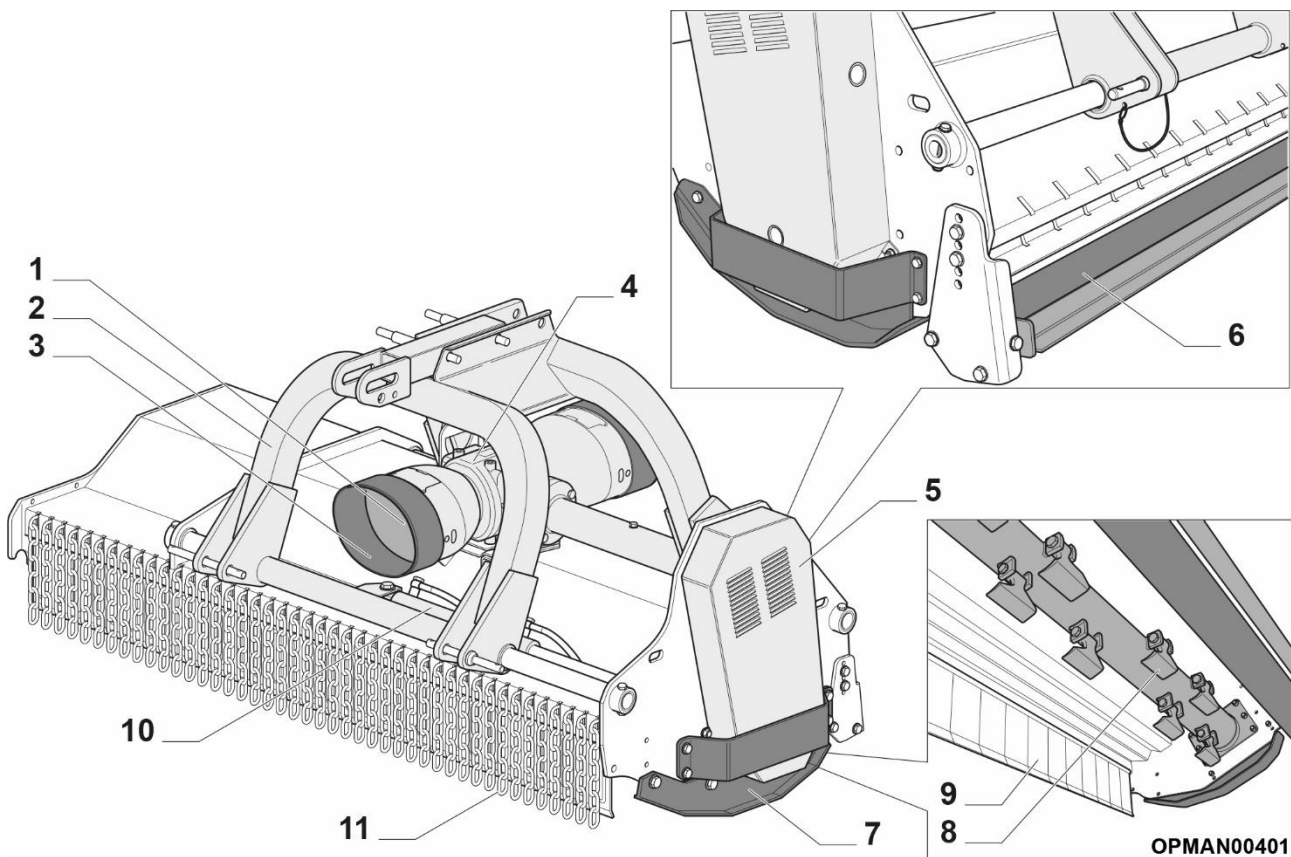

Figure 1
With reference to Figure 1, the Mower consists of a machine designed and built exclusively for maintenance of green areas or mowing directly on site by mulching crop residue. It can be used to mow twigs, corn, pruning residue, planting in general, weeds, etc. forwards as well as backwards. It must not be used for other purposes or with other materials.
The Mower (Figure 1) basically consists of a closed steel cowl structure in which a rotor shaft with flails is installed (8) and, on the rear side, a rear roller (6) to compact the terrain following the mowing phase. The frame (2) is structured so as to allow the machine to work forwards as well as backwards, with the three-point hitch able to be attached to the tractor from both sides. The lower front part is protected by a number of sheet metal flaps (9) and a number of chain links (11) which prevent the soil and/or fragments of plants from being projected outwards. The Mower is powered by the supporting agricultural tractor engine by connecting the gearbox (4) to the PTO of the tractor itself with the input PTO shaft. The gearbox allows a pre-set number of revolutions to be reached for the rotor shaft to rotate via a pulley and belt lateral transmission system (5).